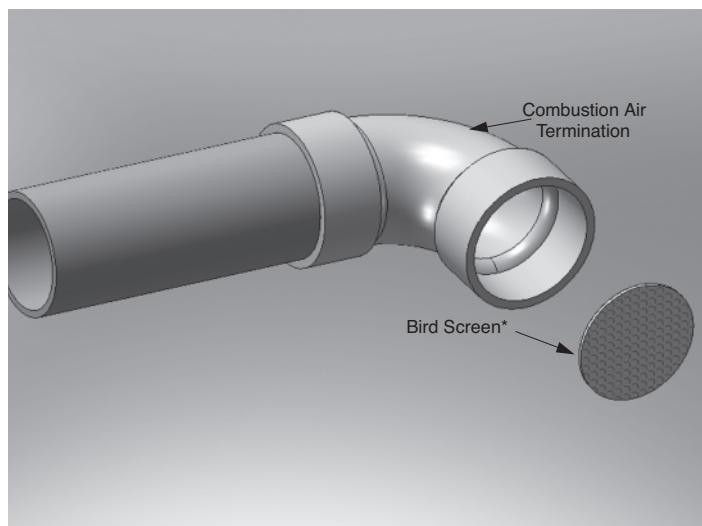

Fig. 14: Horizontal Combustion Air Bird Screen Installation with 90° Elbow Termination
1. The vent and combustion air terminations must include a factory supplied "bird screen" installed as shown in Fig. 4 on page 11 and Fig. 14 on page 15.